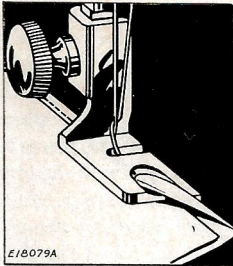

FIG. 38
(1) When making this seam, the garment must first be fitted and the edge of the material trimmed, allowing for about $\frac{1}{8}$ inch seam. Insert the two edges of the material, right sides together, in the hemmer in the same manner as a single hem as shown in Fig. 38. If the material is bulky, place the edge of the upper piece of material about $\frac{1}{8}$ inch to the left of the edge of the under piece.
(2) The free edge of the hemmed seam may be stitched flat to the garment, if desired. To do this, open the work out flat, wrong side up, then insert the hem in the scroll of the hemmer, holding the edge of the hem in position while it is being stitched. If the seam is stitched flat to the garment, one row of stitching is visible on the right side.